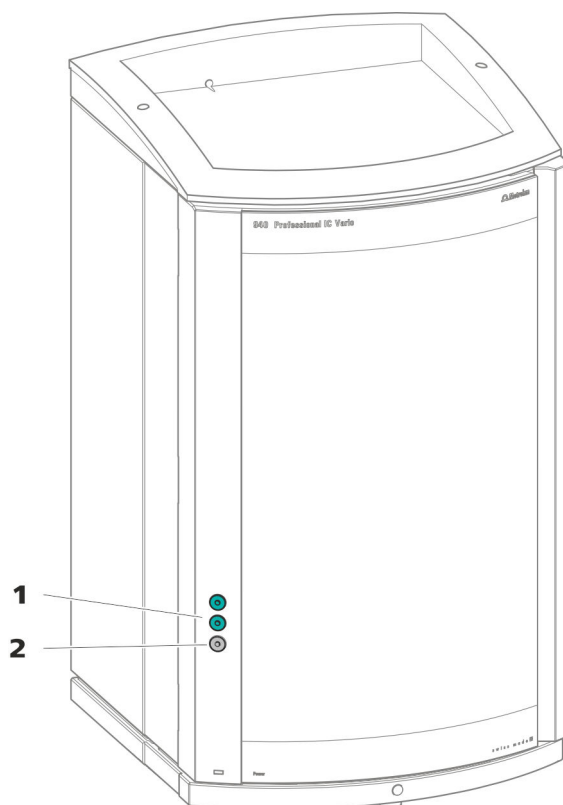

Figure 3 Feed-throughs on the door
- Openings on the door (*see figure 3, page 12*)